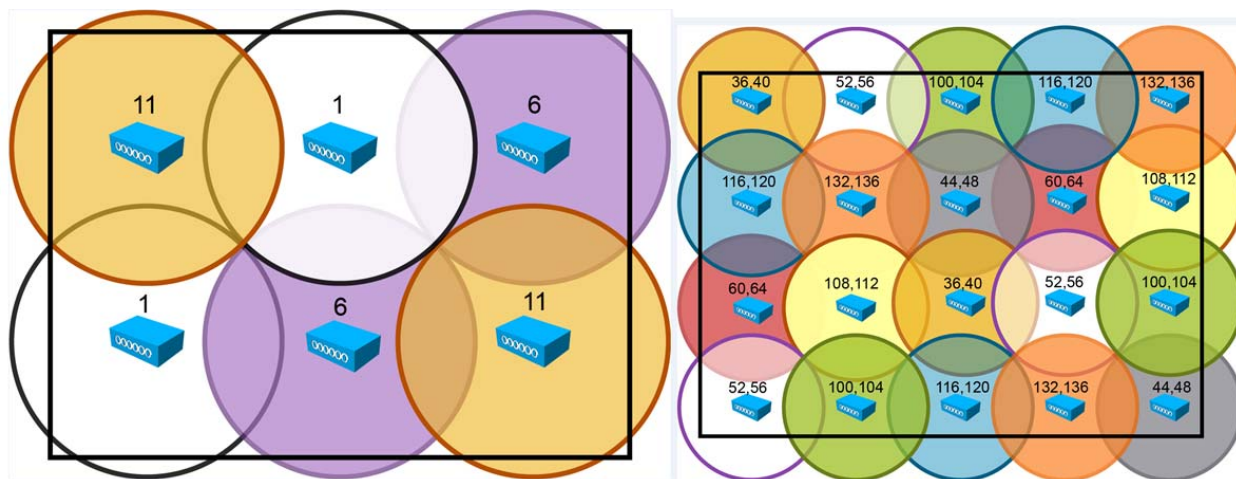

Figure 61: Example of Channel Usage in 2.4 and 5 GHz (Two Channels used if 40 MHz)
- When using the 2.4 GHz frequency, the same one, six, and eleven channel scheme is used as in the 5 GHz channel scheme. (See Figure 61.) Avoid putting all APs on the same channel, and reuse channels if possible. See other Cisco deployment guides for more on this topic.